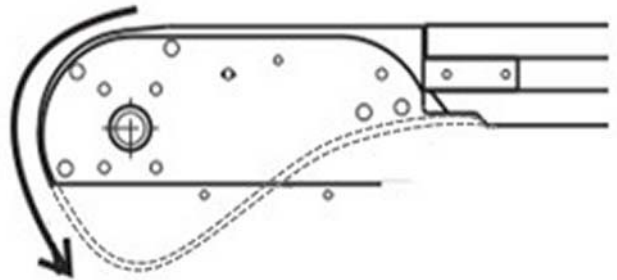

Figure 114
- The conveyor chain must show some slack during operation (See **Figure 114**).